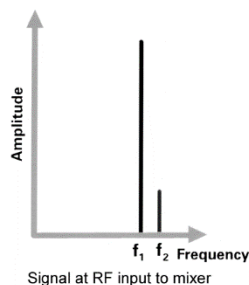
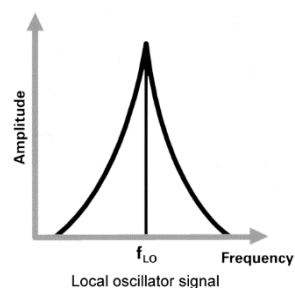
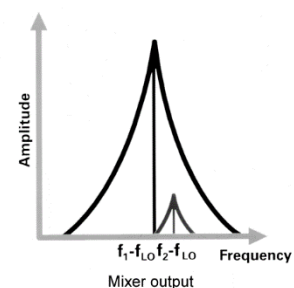

Figure 8. Two signals are ready to be down-converted with a local oscillator
Figure 9. Local oscillator with phase noise
Figure 10. Phase noise masks the lower amplitude signal
A signal generator used as a local oscillator (LO) requires spectral purity. For example, let us examine two signals, f_1 and f_2 , in Figure 8. Figure 10 shows how the LO signal (Figure 9) mixes these signals to an intermediate frequency (IF), where highly selective IF filters can separate one of the signals for amplification, detection, and baseband processing. If the desired signal is the larger signal, there should be no difficulty recovering it.